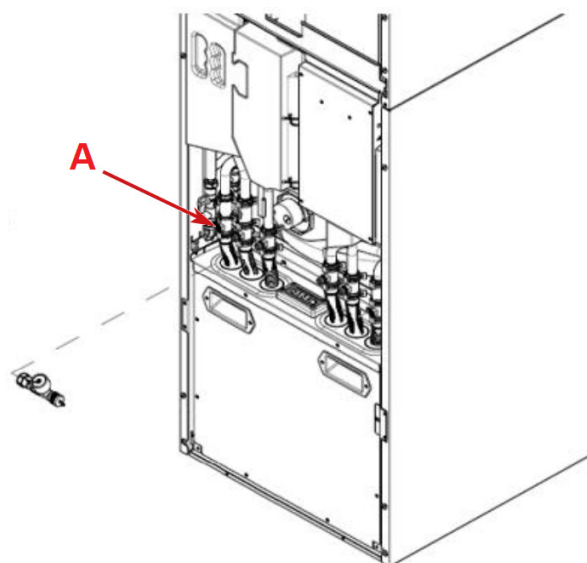

Fig. 111 : Replacing Filling Loop DHW Coil
4. Detach the Hot Water Coil Outlet marked in Fig. 111 with "A". This is to allow easy access to remove the filling loop.
Fig. 111 shows the location of the Interface PCB. Follow the procedure below to replace an Interface PCB.